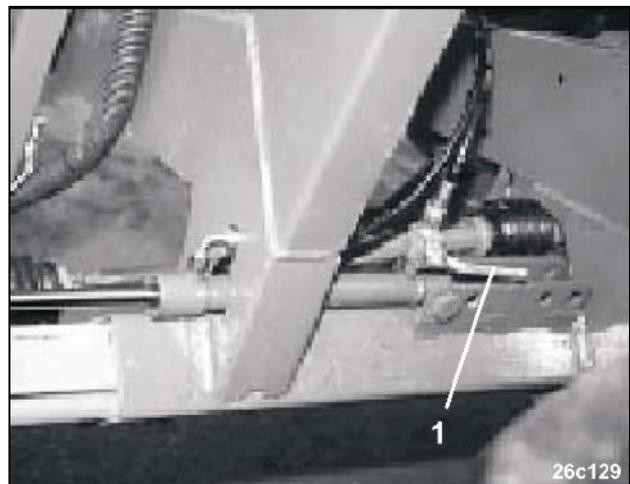

Fig. 134
- Shut the block tap of the hydraulic track width adjustment for transport position locking lever (Fig. 134/1) as illustrated.